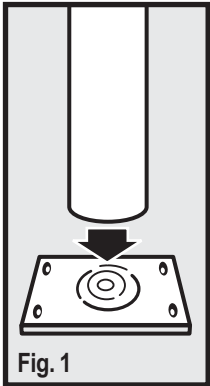

Fig. 1
1. Place flat side of one plate on footing. Put large diameter post on plate with holes on top. Make sure post is exactly vertical and is centered under the beam. (Fig. 1)